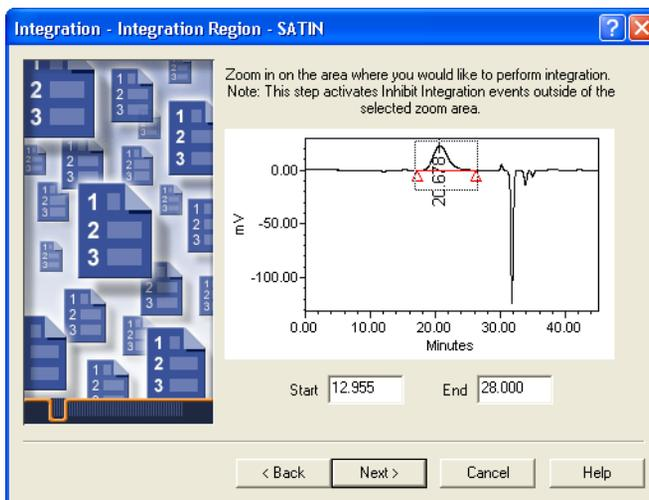

Figure 3-8 Setting the Integration Region
6. Click **Next** to go to the Integration–Integration Region page (Figure 3-8). This page allows you to define the area where you want to perform the integration.